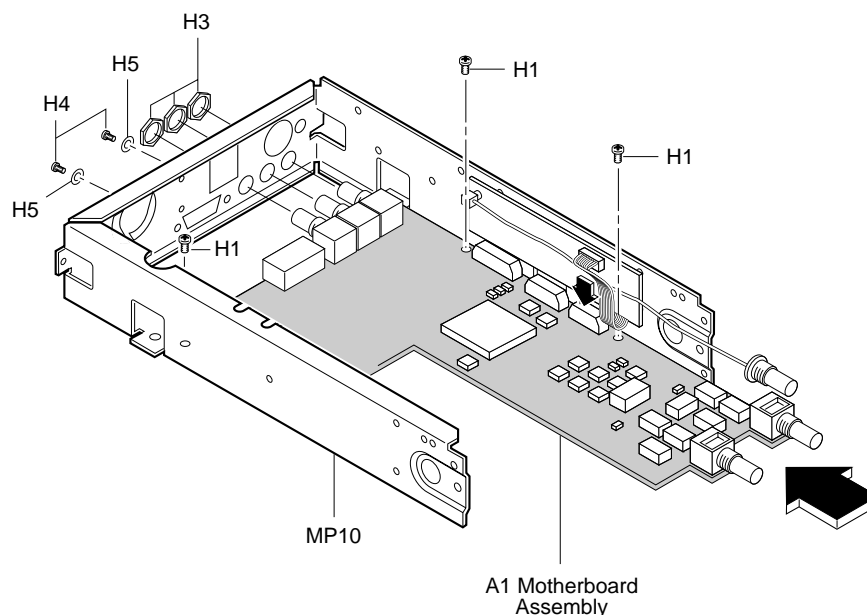

Figure 4-1A. DC Power Input Assembly Retrofitting
- 1 Slide A1 Motherboard Assembly into the new chassis (MP10) as shown in Figure 4-1A.
- 2 Insert but do not tighten the three TORX 15 screws (H1) that attach A1 Motherboard Assembly to the new chassis (MP10) as shown in Figure 4-1A.
- 6 Tighten the three H1 screws, shown in Figure 4-1A, to secure the motherboard to the chassis.